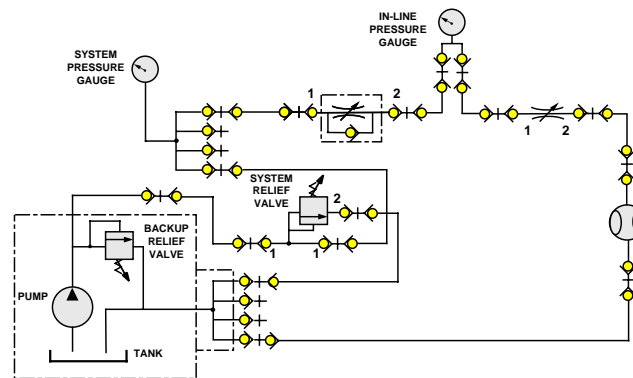

Fig. 3.6.20 Pressure Reducing Valve Circuit
1. Build the circuit in Figure 3.6.20.